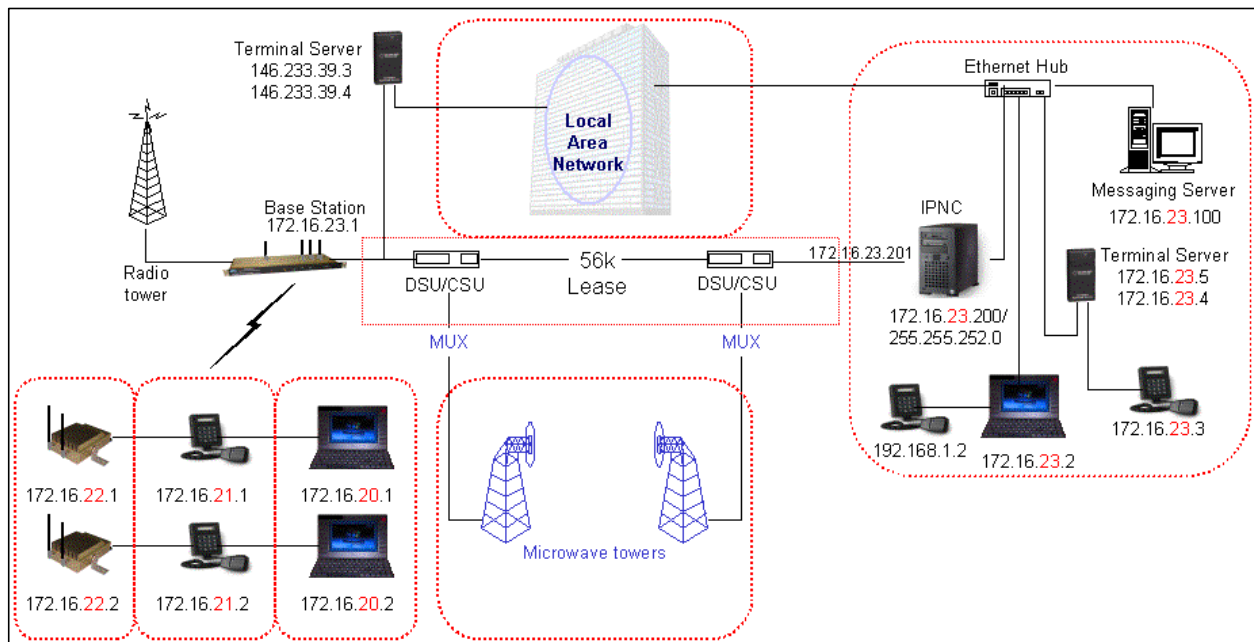

Figure 6: Network Connection to an Existing LAN
Figure 6 depicts network connection to an existing LAN (local area network) inclusive of one (1) IPNC, one (1) base station, and a range of mobile radios, VIUs (voice interface units), mobile computers, and additional components that can interface with the system. This diagram also shows a LAN VIU as well as Terminal Server VIU.